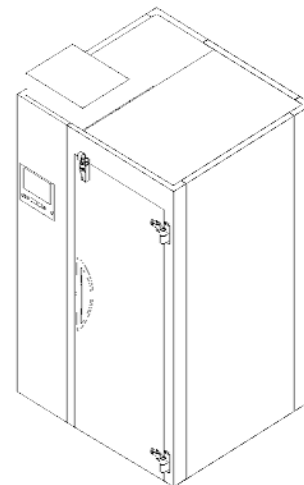

Fig 5
8. Re-hang the door on the doorjamb. (Reverse the procedure of removal but do not replace the transit bracket.) (Fig. 5)